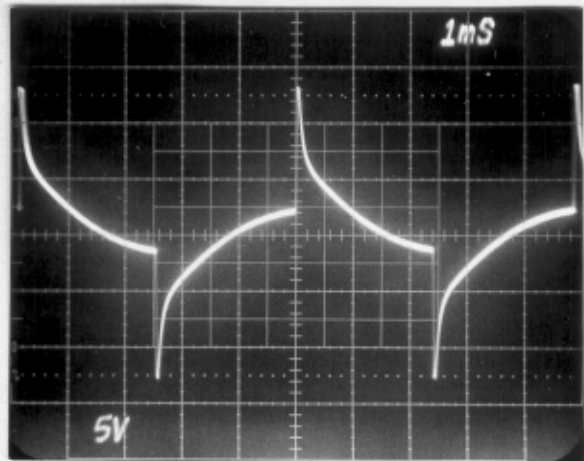

Fig. 13. 100W Amp - Freq at 0.
- 9) Engage Bi-amp switch. Compare 100W output to Fig. 13.